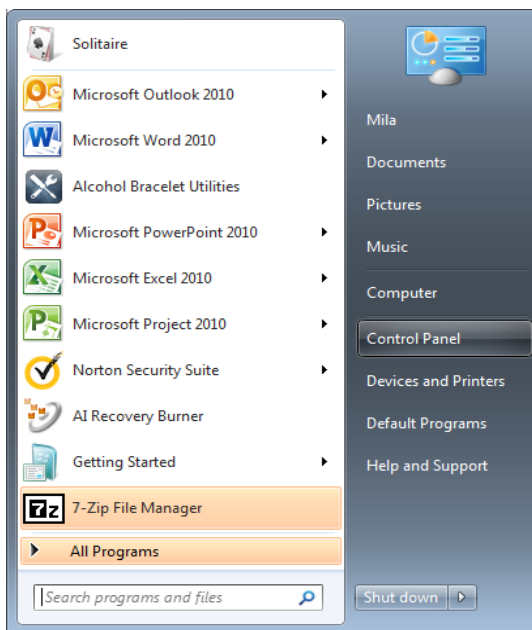

Figure 1: Windows Start Icon
- b. Install Anklet Utility on your computer (see Figure 1)